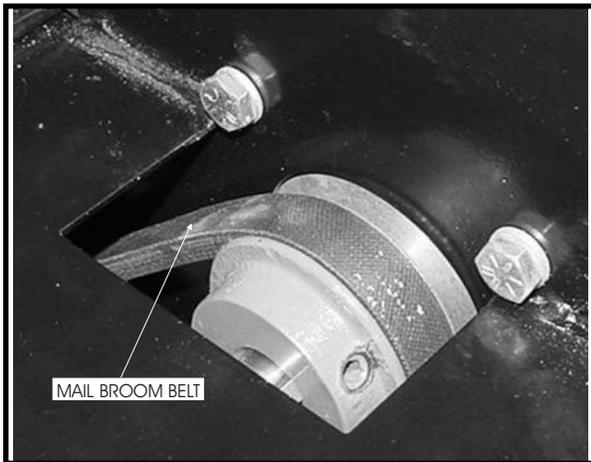

Fig. 62
1. Check belt tension adjustment as shown in figure 62.